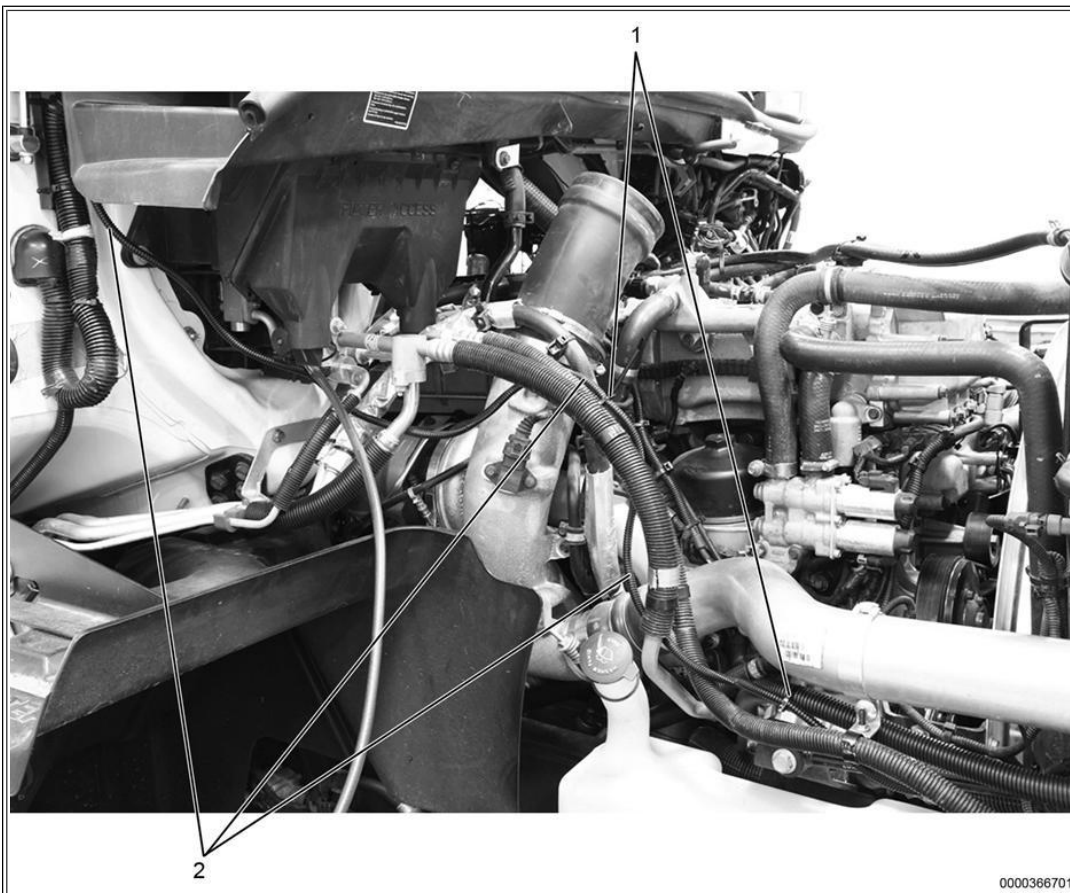
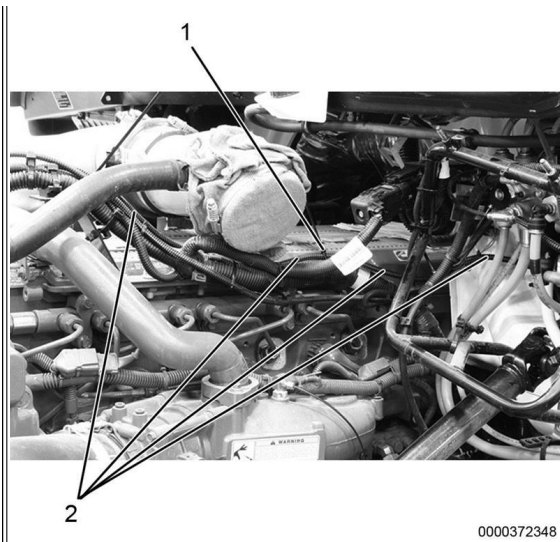

Figure 13: Kit-Supplied PT Sensor - N13 Equipped ProStar 122.
Figure 14: Kit-Supplied PT Sensor - Cummins Equipped ProStar 122.
- 40. Continue securing harness (Figure 13, Item 2, or, Figure 14, Item 1 [Dependent On Engine Equipped]) towards cowl using tie-wraps (Figure 13, Item 1, or, Figure 14, Item 2 [Dependent On Engine Equipped]).